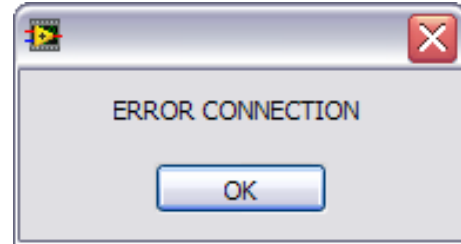

Figure 3. Error Message
3. If the SDP board is not connected to the evaluation boards a message box appears as shown in Figure 3. Check the connection between the SDP and EVAL-AD5541A/42AEBZ boards and run the program again.